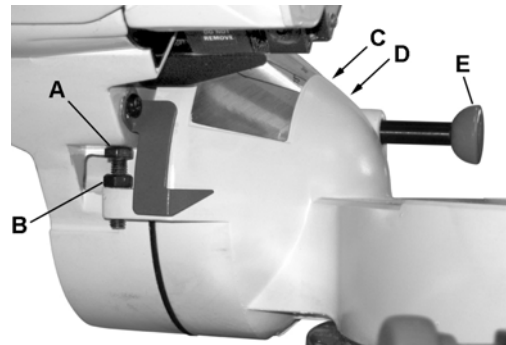

Figure 12
4. To adjust, tilt the cutting arm to zero degrees, loosen the *lock nut* (B, Fig. 12) and turn the *stop bolt* (A, Fig. 12) in or out accordingly.
6. Repeat steps 1–4 if necessary until the blade is 45° to the table, then tighten the *lock nut* (B, Fig. 12) to secure the *stop bolt* (A, Fig. 12).
4. To adjust, tilt the cutting arm to zero degrees, loosen the locknut (D, Fig. 12) and turn the *stop bolt* (C, Fig. 12) in or out accordingly.
6. Repeat steps 1–4 if necessary until the blade is 45° to the table, then tighten the *lock nut* (D, Fig. 12) to secure the *stop bolt* (C, Fig. 12).
3. Tilt the cutting arm to the 33.9° left bevel position and engage the positive stop by pushing the *bevel detent pin* (E, Fig. 12) in.